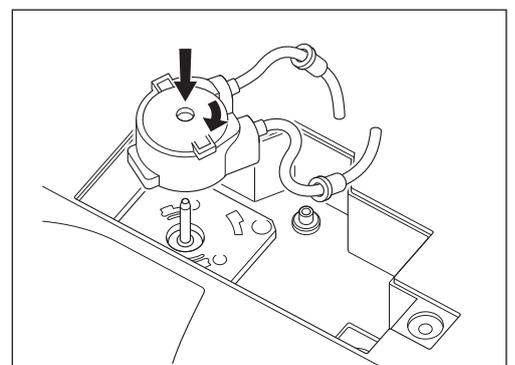

Fig. 55
- 7) Align the new Irrigation Pump (option) with the Drive Shaft. Turn clockwise until it clicks (Fig. 55).